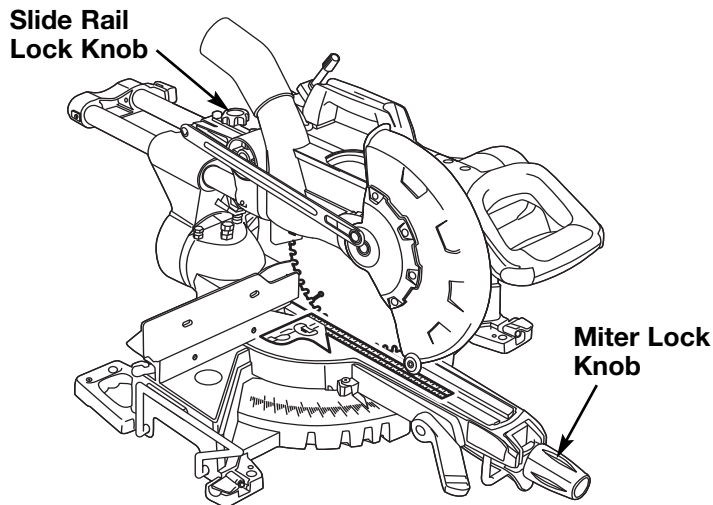

Figure 13. Blade Square to Fence
1. Make sure head assembly is pulled forward near the center of the table and slide rail lock knob is tightened (Figure 13).
4. Place a combination square against the fence and next to the blade as illustrated. Locate the square properly so it does not contact the tooth of saw blade. The saw blade should contact the full length of the square (Figure 13).